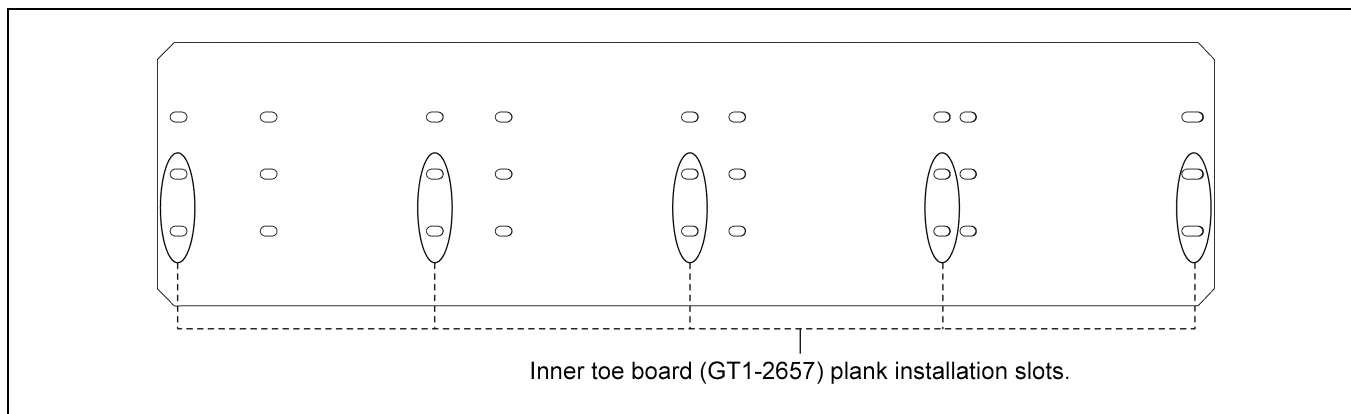

Figure 6N 23'-4" Inner Toe Board (GT1-2657)
2. Inner toe board (GT1-2657) is arranged with many slots to install plank. Install offset and roof hatch planks to corresponding slots as shown in Figure 6N.